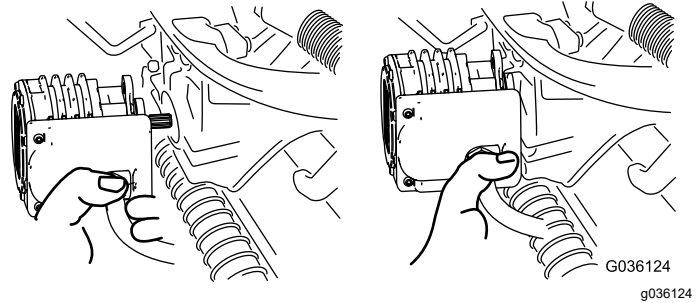

Figure 60
4. Move the motor to the storage location on the front of the suspension arm (Figure 60).